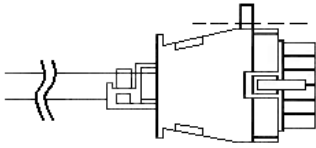

Figure 8. Cable Harness Strain Relief. Dotted line shows approximate location for cutoff.
**Note:** If the Distribution Cable Harness has a plastic hinge on the strain relief, then cut this hinge off, as it will interfere with other Junction Box Connectors (see Figure 8).